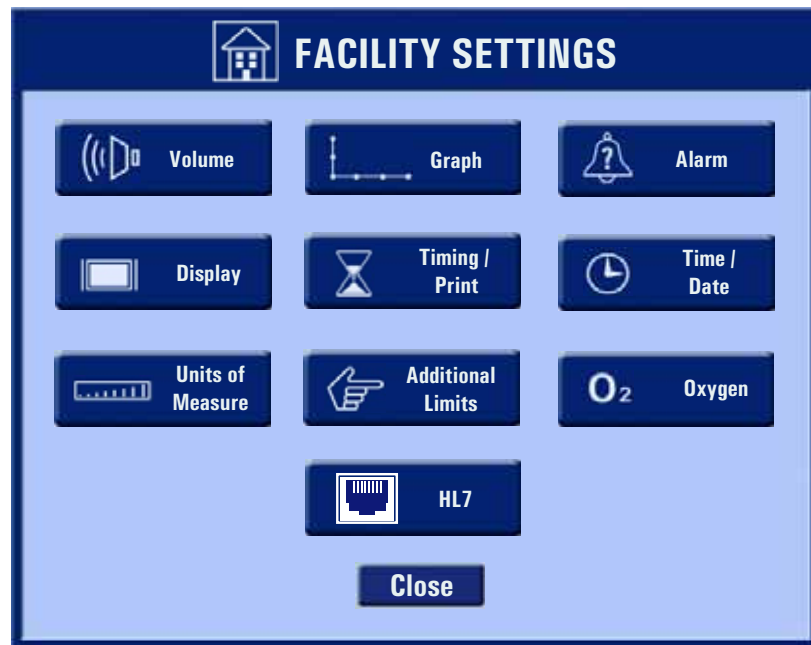

Figure 5-13 PRU Facility Settings Menu Screen
4. Contact the Facility Administrator for the access code. Enter the 4-digit access code, then press **OK**. A Facility Settings menu screen appears (refer to Figure 5-13 on page 5-13). This screen displays all the Facility Settings that you can change for the PRU.
The following screens appear when you select and press a button from the Facility Settings Menu screen (refer to Figure 5-13 on page 5-13):